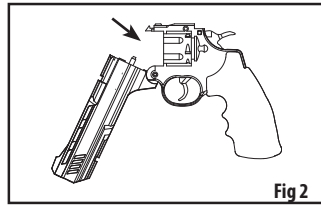

Fig 2
**AVERTISSEMENT:** VEUILLEZ À ÉLOIGNER VOS DOIGTS DES POINTS DE PINCEMENT. LA FIGURE 2 MONTRÉ LES POINTS DE PINCEMENT QU'IL FAUT CONNAÎTRE.